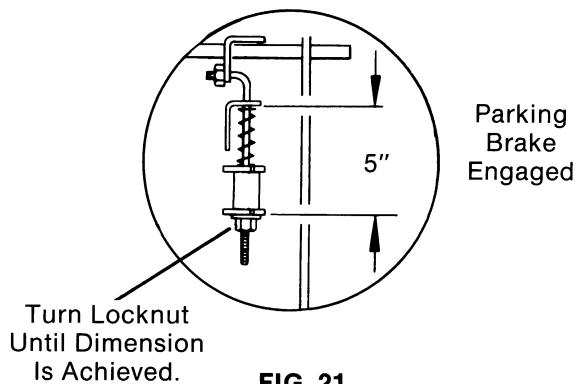

FIG. 21
- Check adjustment at brake adjustment rod. With brake "ENGAGED", spring should be compressed to dimension shown in (Fig. 21). If it isn't, turn locknut until dimension is achieved.